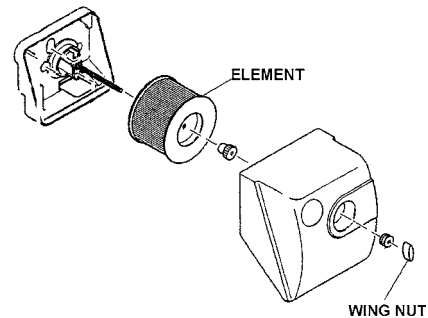

Figure 13. Engine Air Cleaner
1. Loosen the wing nut and detach the cover of the air cleaner shown in Figure 13.
2. Tap the element (Figure 13) several times on a hard surface to remove dirt, or blow compressed air, not exceeding 30 psi (207 kPa, 2.1 kgf/cm²), through the element side. NEVER wash the element with detergent because the element is oil-soaked type. Replace the element when the output decreases or bad exhaust color is noticed.